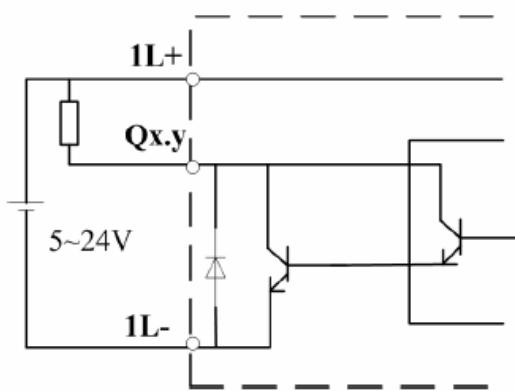

Figure 2.5.4 LM3106A Output Channel Equivalent Circuit
◊ LM3106A output channel (DO) equivalent circuit shown in Figure 2.5.4.